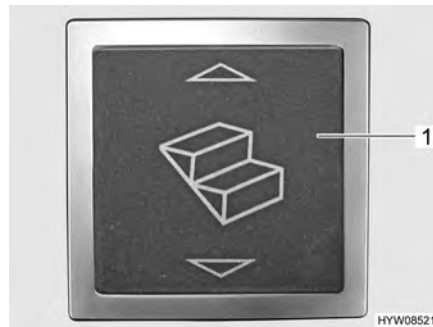

Fig. 3 Rocker button for entrance step (entrance area)
- Press the rocker button (Fig. 3,1) situated in the entrance area.